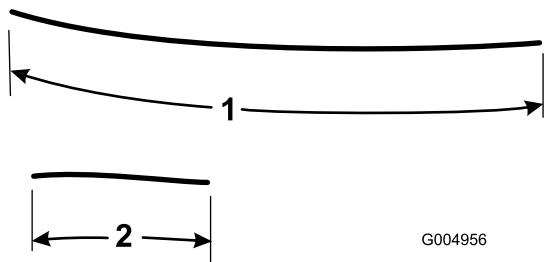

Figure 13
- 7. From the remaining piece of hose cut 2 lengths of hose, 140 cm (55 inches) and 57 cm (22-1/2 inches) (Figure 13). Discard any remaining hose. These will be used to complete the traction unit connections.